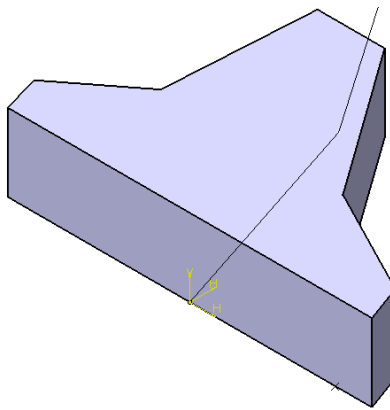

Figure 5-76 Model after creating the base feature
10. Choose the **OK** button from the **Pad Definition** dialog box to complete the feature creation. The model, after creating the base feature, is shown in Figure 5-76.